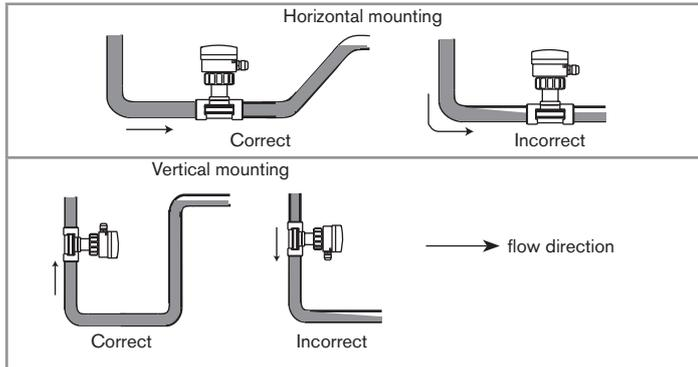

Fig. 9 : Filling of the pipe
- Ensure that the pipe is always filled in the section around the device (see Fig. 9).
- When mounting vertically ensure that the flow direction is in an upward direction (see Fig. 9).